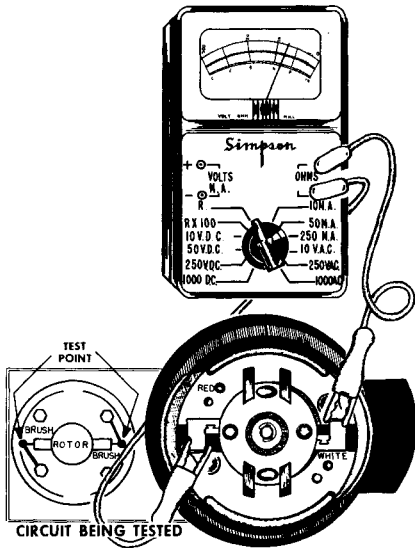
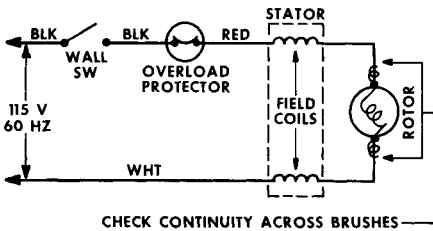

Figure 17 - Check brush contact with rotor.
Figure 18 - Schematic - Wiring Diagram
1. Remove bottom cover to expose brush retainers, as shown in Figure 17.
2. To check the brushes, place one ohmmeter test prod on each motor brush retainer, Figure 17 and Figure 18.